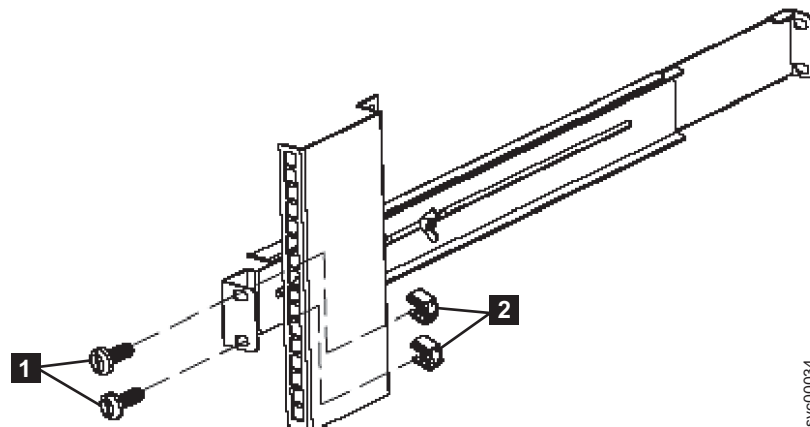

Figure 218. Securing the rear rail on the 2145 UPS-1U
7. Using two M6 × 10 screws (**1** in Figure 218) and two clip nuts **2**, attach the rail to the rear of the rack. The customer's rack might be different than the one shown here, and if so, might require different clip nuts or fasteners.